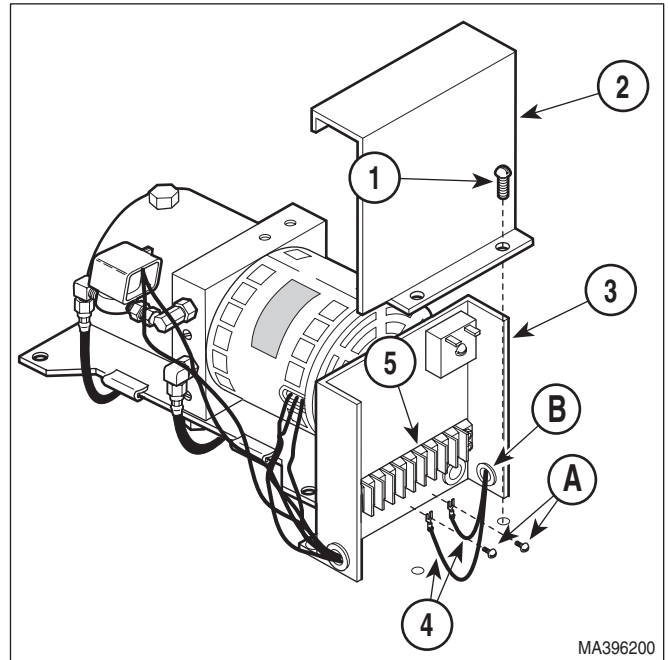
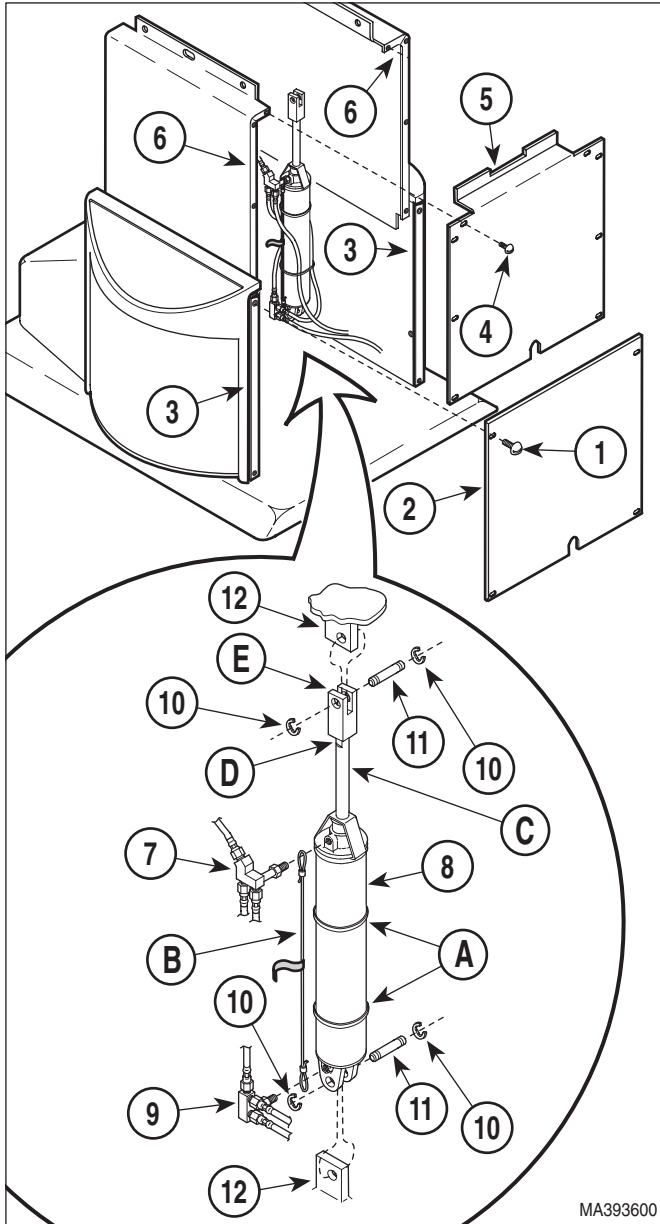

Figure 4-14. Tilt Cylinder Wire Disconnection / Connection
Figure 4-15. Tilt Cylinder Removal / Installation
- (1) If possible, lower TILT DOWN function all the way down.
- (2) Raise FOOT UP function all the way up.
- (3) Unplug table power cord from outlet.
- (4) Remove motor cover assembly (Refer to para 4.2).
- (5) Remove two screws (1, Figure 4-14) and control cover (2) from control panel (3).
- (6) Loosen two terminal screws; then tag and disconnect two tilt cylinder wires (4) from terminal block (5).
- (7) Pull tilt cylinder wires (4) out thru wire hole.
- (8) Remove four screws (1, Figure 4-15) and front outer shroud (2) from left and right hand outer shrouds (3).
- (9) Remove eight screws (4) and front inner shroud (5) from left and right hand inner shrouds (6).
- (10) Disconnect return manifold (7) from rod end of tilt cylinder (8).
- (11) Disconnect power manifold (9) from base of tilt cylinder (8).
- (1) Install tilt cylinder (8, Figure 4-15) on brackets (12) and secure with two clevis pins (11) and four E-rings (10).
- (2) Connect power manifold (9) to base of tilt cylinder (8), making sure safety cable (B) is properly installed.
- (3) Connect return manifold (7) to rod end of tilt cylinder (8).
- (4) Secure wire harnesses and hose assemblies to tilt cylinder (8) with a cable tie.
- (5) Route tilt cylinder wires (4, Figure 4-14) thru table.
- (6) Feed tilt cylinder wires (4) thru wire hole (B) in control panel (3).
- (7) Connect two tilt cylinder wires (4) to terminal block (5) and secure by tightening two terminal screws (A).
- (8) Install control cover (2) on control panel (3) and secure with two screws (1).
- (9) Install any cable ties which were removed.
- (10) Plug table power cord into outlet.
- (11) Lower TILT DOWN function all the way down.
- (12) If seat section *is not* level with floor when the TILT DOWN function *is* completely lowered, perform steps 13 thru 15. If seat section is level when the TILT DOWN function is completely lowered, go to step 16.
- (13) Raise TILT UP function up until cylinder rod is extended halfway.
- (14) Place a wrench on adjusting seats D, Figure 4-15) of cylinder rod (C) and use it to rotate cylinder rod to adjust clevis (E) up or down as necessary.
- (15) Repeat steps 11 thru 15 until seat section is level when TILT DOWN function is completely lowered.
- (16) Install front inner shroud (5) on left and right hand inner shrouds (6) and secure with eight screws (4).
- (17) Install front outer shroud (2) on left and right hand outer shrouds (3) and secure with four screws (1).
- (18) If necessary, add oil to motor pump (Refer to para 4.3).
- (19) Install motor cover assembly (Refer to para 4.2).